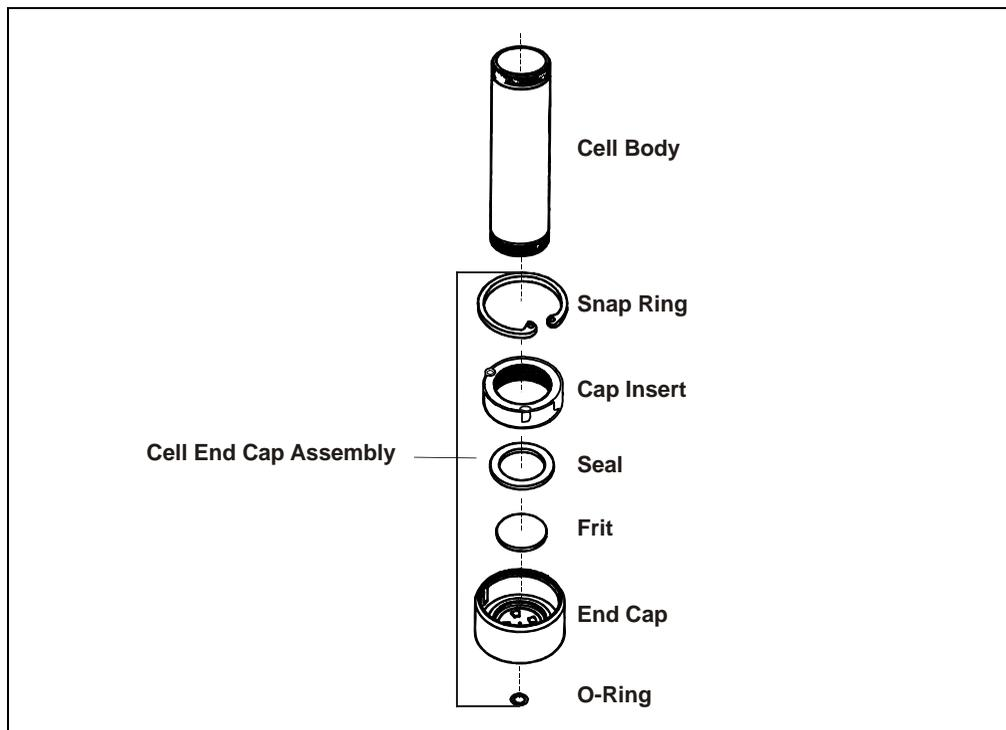

Figure 5-3. Sample Cell Assembly
6. Refer to Figure 5-3 and the following steps to reassemble the sample cell.